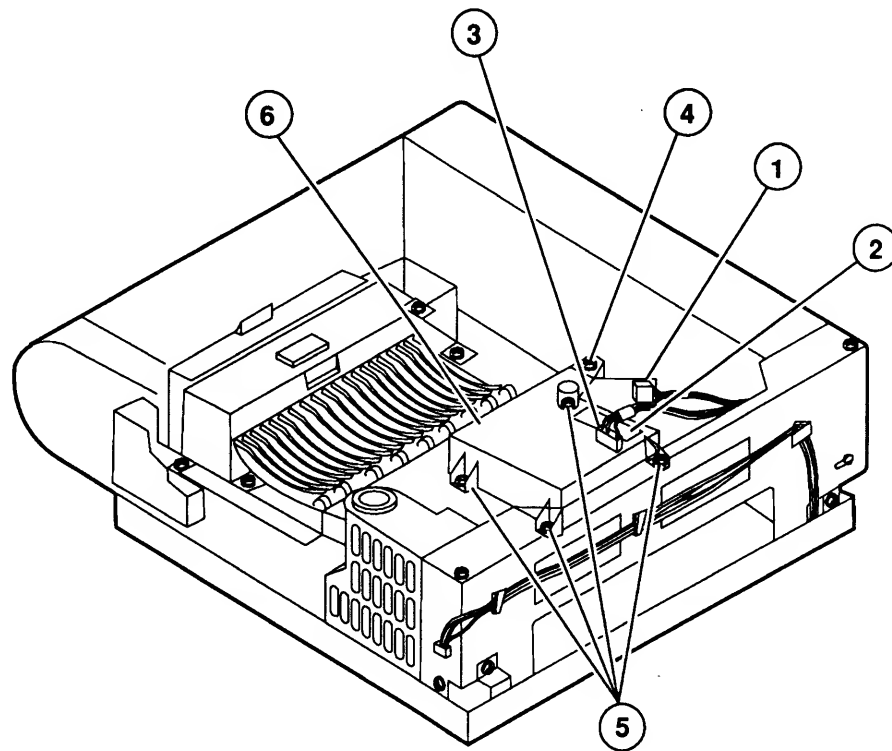

FIGURE 29
2. Disconnect the laser diode cable (Figure 29, #1) from laser diode PCA connector J451.
3. Open the scanning motor PCA cover (Figure 29, #2) and disconnect the scanning motor cable (Figure 29, #3) from scanning motor PCA connector J401.
4. Remove the Phillips screw (Figure 29, #4) on the optical fiber cover and open the cover.
6. Remove the four Phillips screws (Figure 29, #5) securing the laser/scanner assembly (Figure 29, #6) to the cassette holder. Remove the scanner unit.